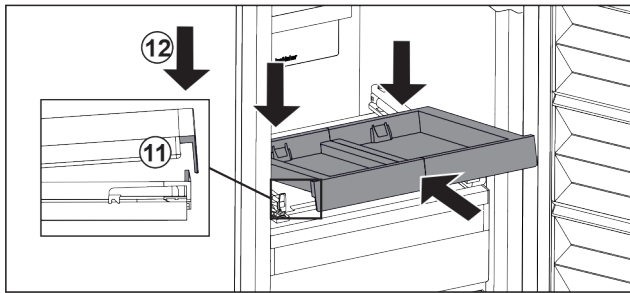

Fig. 27
- ▶ Slide it in at an angle. Make sure that the stop is behind the lug on both sides. Fig. 27 (11)
- ▶ Lower the pull-out board at the front. Fig. 27 (12)